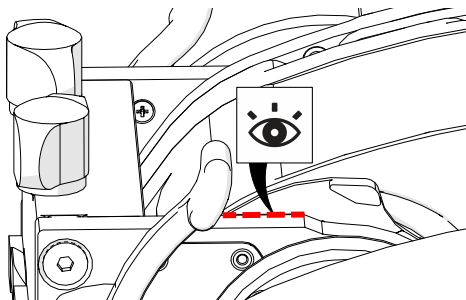

Fig. 191 - Align swivel mount with etched line
7. Ensure the swivel mount of the **NAVIC** is horizontally aligned (Fig. 191) with the etched line on the crawler (see "Swivel Mount" on page 59 for additional details).